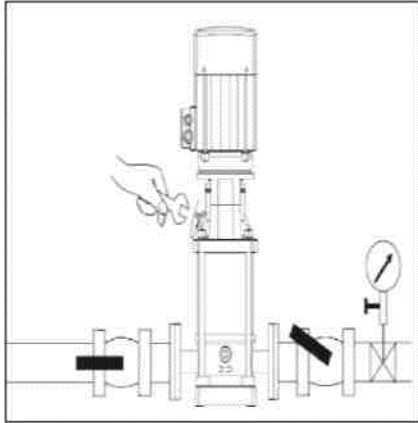

Figure 6
- 10- Continue bleeding the pump. At the same time, open the discharge valve a little more. Check that the pump(s) are running within the required pressure ranges (See Figure 6). See Table 1 for setting the operating pressure range of the pump.